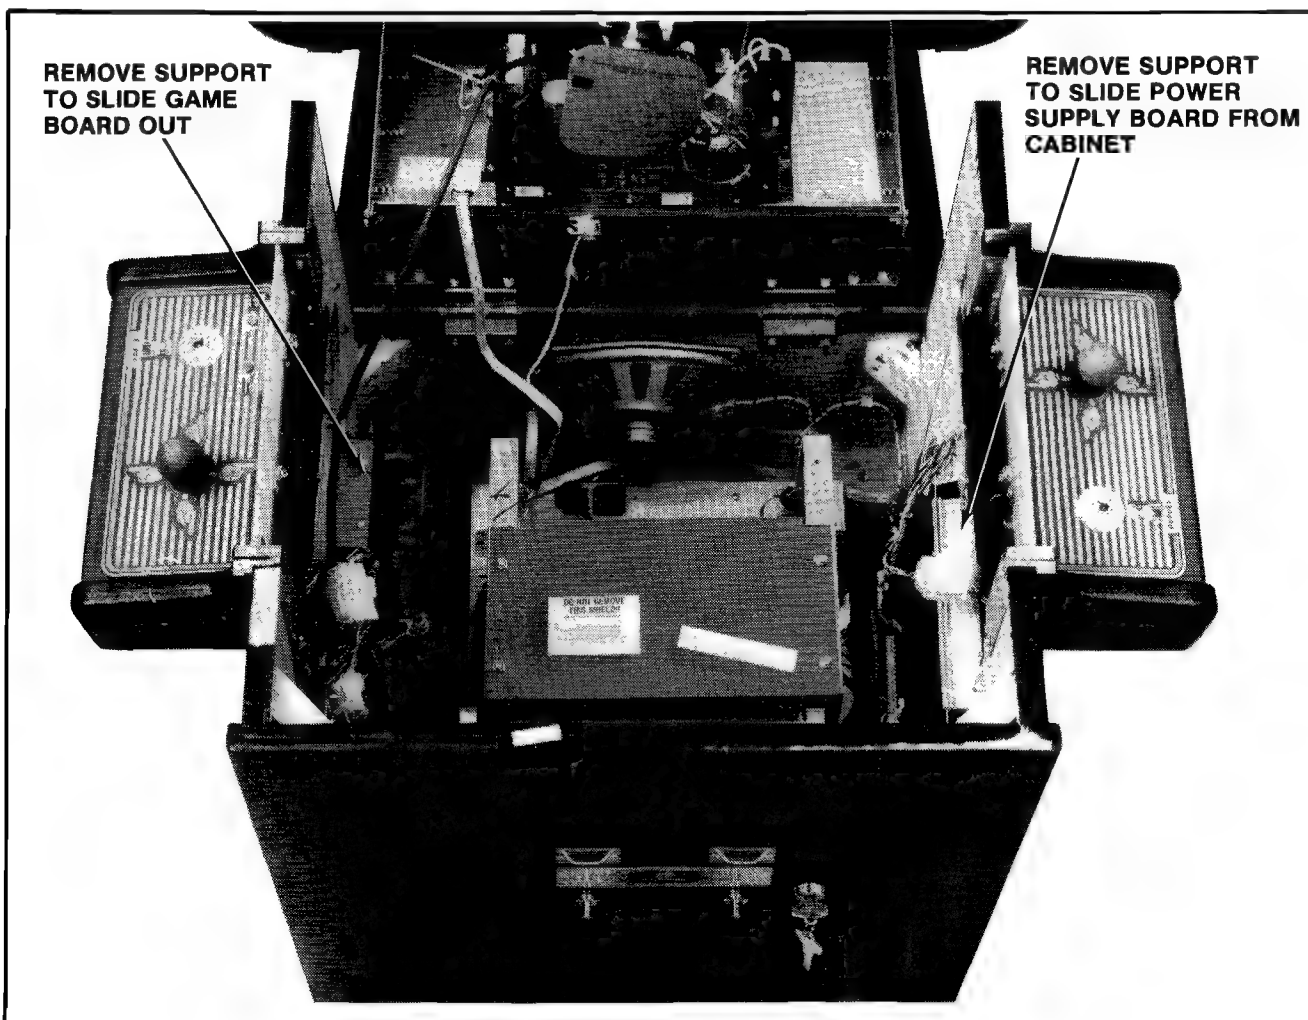

Figure 2-24 Removing P.C.B.'s - Cocktail
2.8.3 COCKTAIL TABLE MODEL: (See Figure 2-24)
- ☐ To remove the power supply board. See Figure 2-24.
- ☐ To remove the game and sound boards. See Figure 2-24.